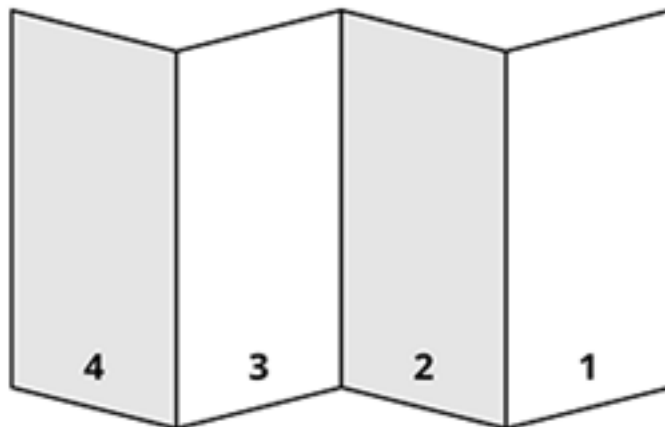

Figure 4.2: Four fold folded paper.
3. Let one person of the group fold the paper in 4 equal parts along the longest side of the paper as shown in figure 4.2.